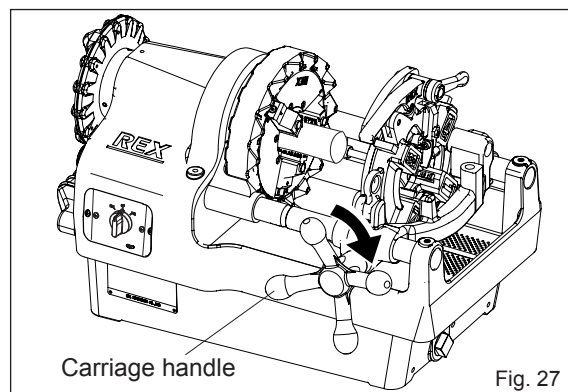

Fig. 27
- Turn the carriage handle to the right to engage the pipe with the dies. Cut 3 or 4 threads and threading will then be performed automatically. (Fig. 27)